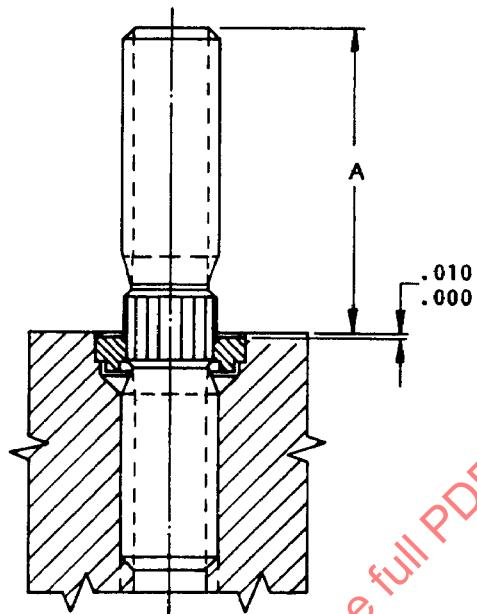
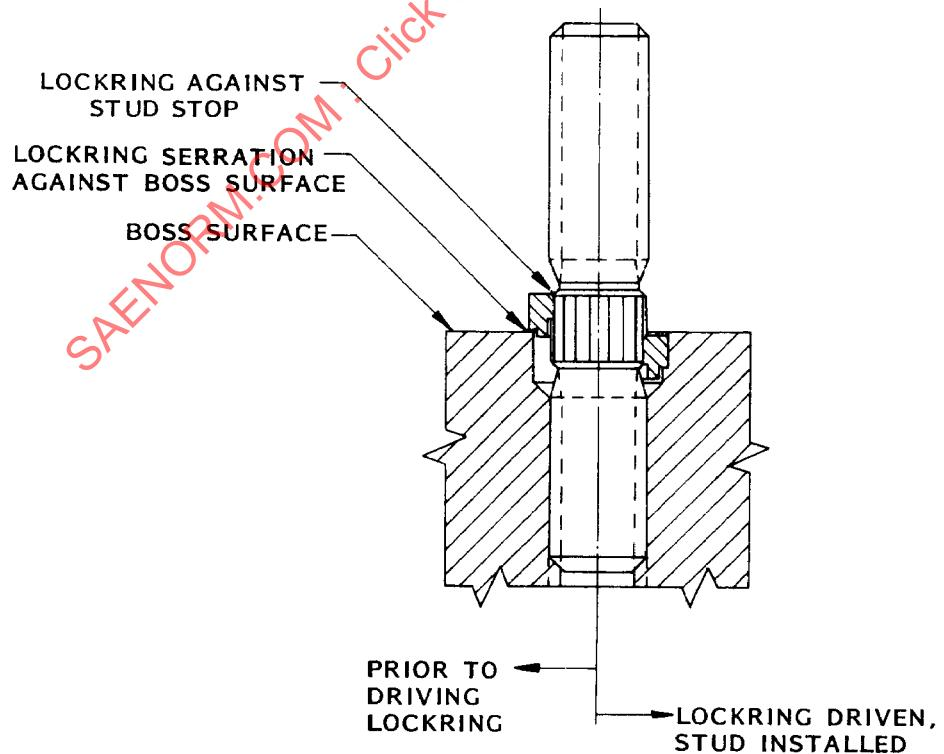

FIGURE 1
FIGURE 2
- 4.1.2 Screw the stud into the prepared hole by hand until the lockring contacts the top of boss and the top of lockring bears against the stud serration stop (Figure 2). This will automatically provide the proper stud projection "A" (Figure 1).
- 4.1.3 Using the applicable lockring drive tool shown in Table II, drive the lockring into the counterbore until the face of the tool bears against the boss surface. The lockring will be installed flush to .010 below the boss surface per Figures 1 & 2.
- 4.2.2.2 A .002 maximum thickness shim shall be used between the lockring and the broached surface to prevent premature engagement of serrations. Screw the stud into the prepared hole until the top of the lockring has stopped against the upper part of the stud serrations and the lower points of the lockring external serrations rest on the shim surface. This will automatically provide the proper stud projection (Figures 1 & 2).